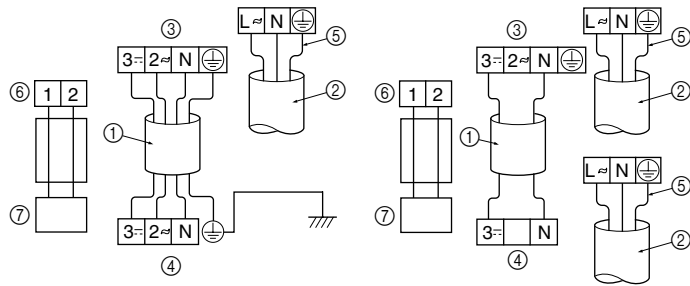

Fig. 7-3
- Ⓖ Outdoor unit (Refer to Fig. 7-3)
• Perform wiring as shown in the diagram to the lower left. (Procure the cable locally). (Fig. 7-3)